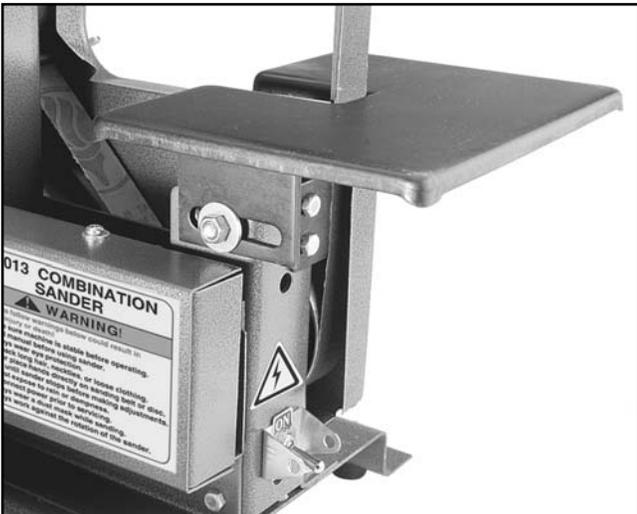

Figure 10. Belt table attached to sander.
10. Install the belt table using the $\frac{5}{16}$ " - 18 x $\frac{5}{8}$ " carriage bolt, $\frac{5}{16}$ " fender washer and $\frac{5}{16}$ " - 18 hex nut. **See Figure 10.**